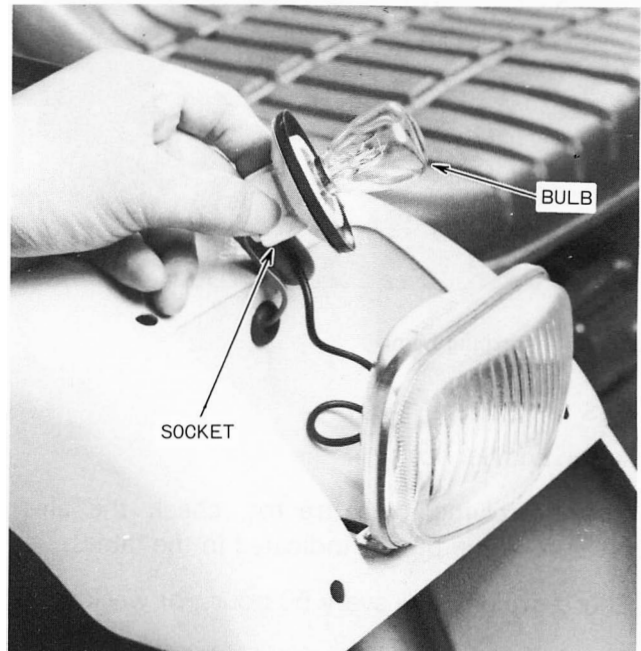

Figure 54 — Headlamp Socket
2. Turn the socket to align the index tab and remove the socket from the housing, Figure 54.